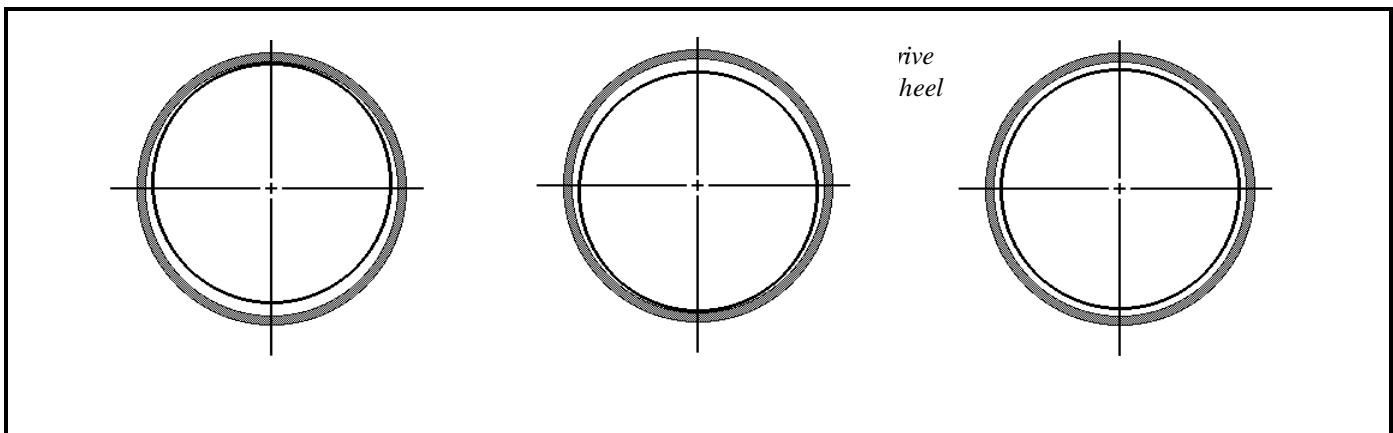

Figure 6 (MSSM0231AE)
3. Determine that an even gap exists **all around between the drive wheel and the clutch drum** as shown in figure 6. To achieve proper alignment, loosen the bolts and adjust the position of the gear reducer. If necessary, enlarge the bolt holes with a round file.